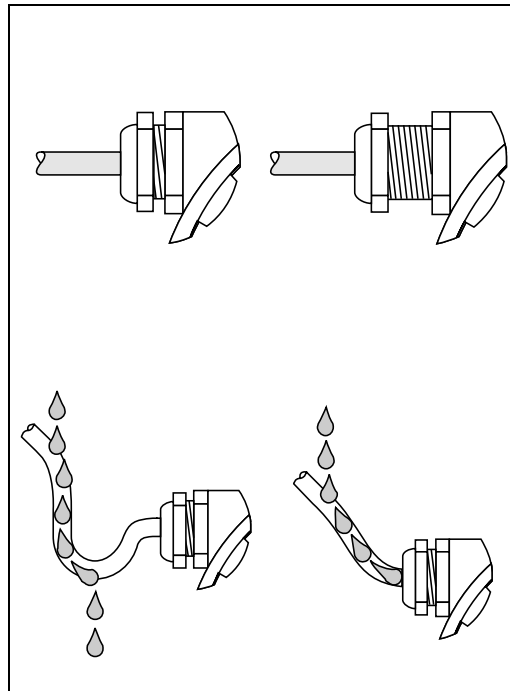

Figure 2
- The cable gland must be firmly tightened (see Fig. 2).
- The cable must loop down before entering the cable gland to ensure that no moisture can enter it (see Fig. 2).